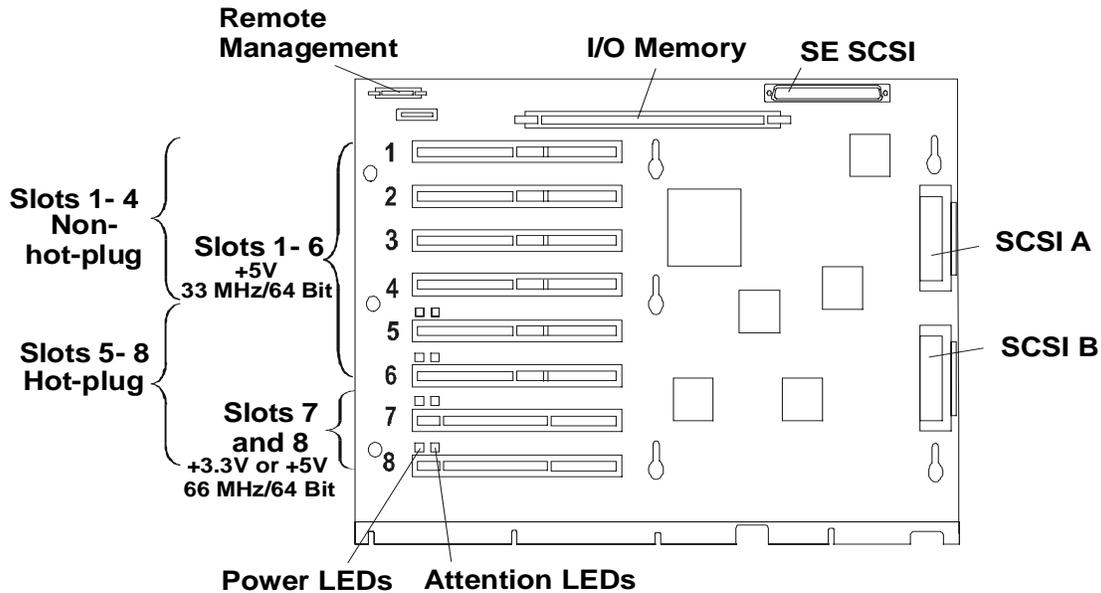

Figure 6-1. I/O Board
- Identify the desired slot (1 through 8), before installing the accessory board (see Figure 6-1).